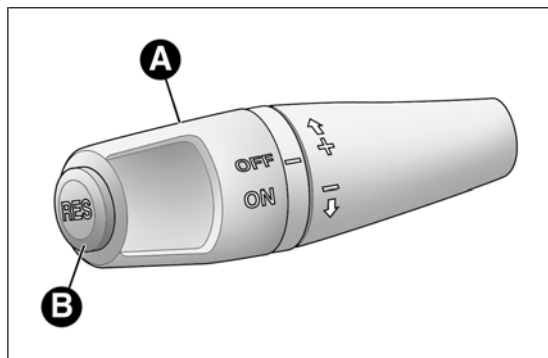

fig. 36
Turn ring nut A fig. 36 to ON.
- ☐ turn ring nut A fig. 36 to ON and press the accelerator to reach the required speed.
- ☐ press the RES button (B fig. 36).
- turn ring nut A fig. 36 to OFF;
If operation is inadequate or the device is faulty, turn ring nut A fig. 36 to OFF and contact Alfa Romeo Authorized Services.